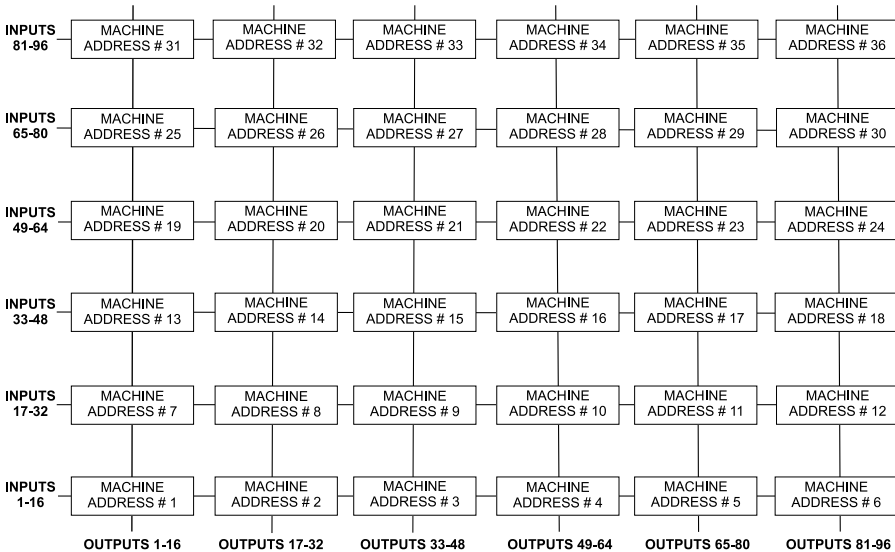
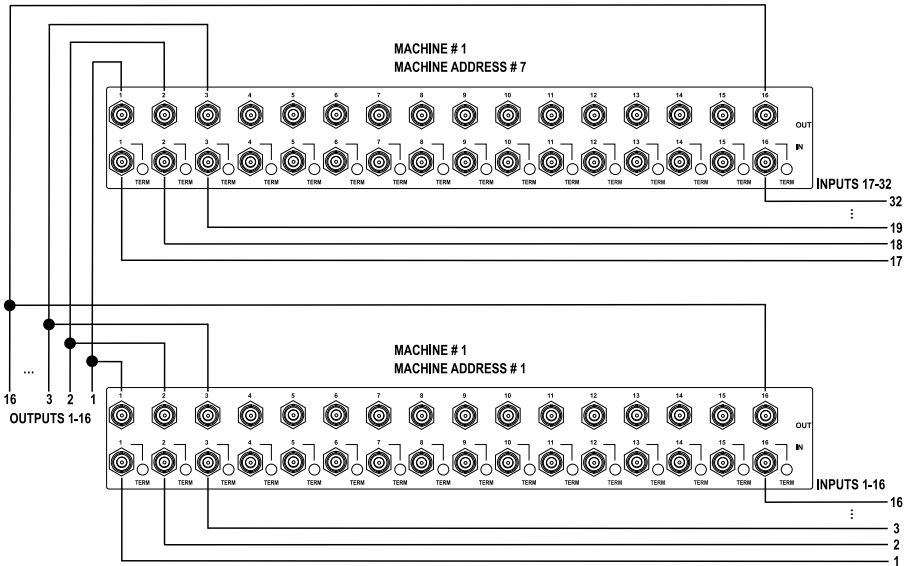
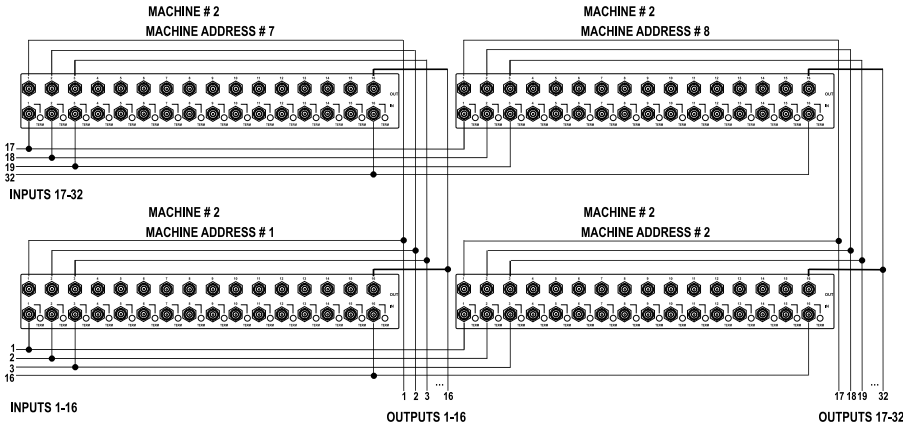

Figure 8: MACHINE ADDRESS # Designation
Figure 9: Connecting the 32x16 Switcher
Figure 10: Connecting the 32x32 Switcher
You can expand the number of inputs and outputs using several **VS-1616V** units¹. Set the **MACHINE ADDRESS #** (see section 6.5.2) on each **VS-1616V** unit to define which inputs and outputs are configured to that particular unit when expanding, as the chart in Figure 8 illustrates.
For example, to connect a 48x64 switcher (48 inputs and 64 outputs), you would configure using **MACHINE ADDRESS #** 1, 2, 3, 4; 7, 8, 9, 10; 13, 14, 15 and 16. You can only choose a rectangular² configuration from the chart in Figure 8.
As can be seen in Figure 8, a 32x16 switcher consists of 2 **VS-1616V** units (**MACHINE ADDRESS #** 1 and **MACHINE ADDRESS #** 7). To assemble, as Figure 9 illustrates:
³ For a single group, this is usually set to # 1, as in the example in Figure 9
2. Set the MACHINE ADDRESS # on one **VS-1616V** unit to 1 and on the other **VS-1616V** unit to 7 (refer to Figure 8).
As can be seen in Figure 8, a 32x32 switcher consists of 4 **VS-1616V** units (MACHINE ADDRESS # 1, MACHINE ADDRESS # 2, MACHINE ADDRESS # 7 and MACHINE ADDRESS # 8). To assemble, as Figure 10 illustrates:
2. Set the MACHINE ADDRESS # to 1, 2, 7 and 8 on each of the 4 units, respectively (refer to Figure 8).
¹ Set to # 1 in most cases. In the example in Figure 10, the MACHINE # is set to # 2
The MACHINE ADDRESS # is determined via the MACHINE ADDRESS Menu command, as section 8.4 describes. The MACHINE ADDRESS # defines which inputs and outputs are configured to that particular unit when expanding, as the chart in Figure 8 illustrates.